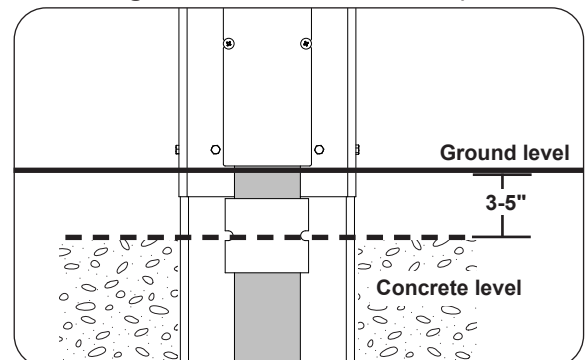

Fig. 29-4 In-ground post orientation
5. Pour the concrete mixture into the hole to approximately 3-5" below the ground level. See Fig. 29-4.